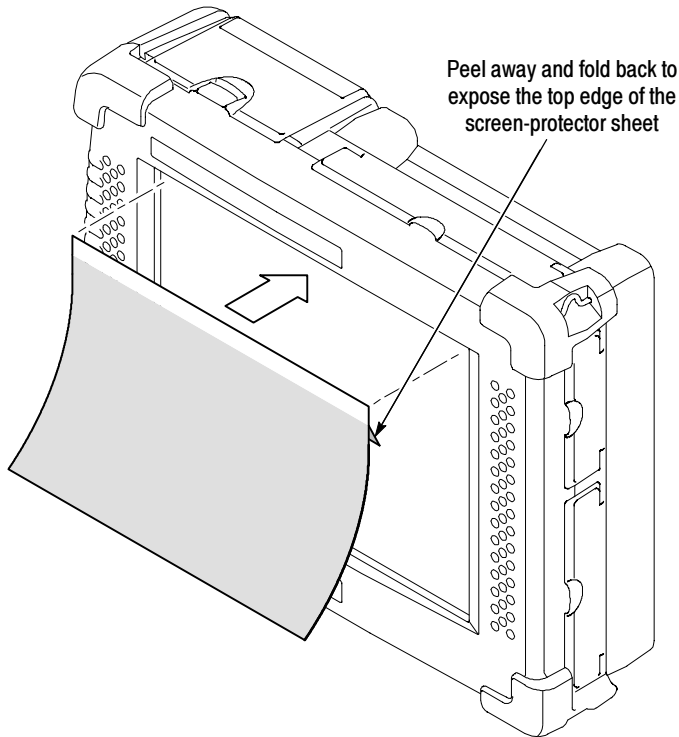

Figure D- 1: Installing the screen-protector sheet
2. Align the exposed edge of the sheet with the top edge of the Touch-Screen Display. See Figure D-1.